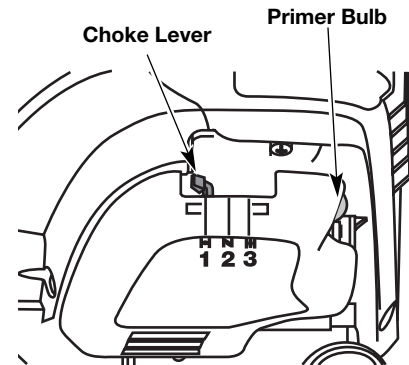

Fig. 8
WARNING: Avoid accidental starting. Make sure you are in the starting position when pulling the starter rope (Fig. 8). To avoid serious injury, the operator and unit must be in a stable position while starting.
3. Fully press and release the primer bulb 10 times, slowly. Some amount of **fuel should be visible in the primer bulb and fuel lines** (Fig. 8). If you can't see fuel in the bulb, press and release the bulb as many times as it takes before you can see fuel in it.
4. Place the choke lever in **Position 1** (Fig. 8).
6. Place the choke lever in **Position 2** (Fig. 8).
9. Place the choke lever in **Position 3** (Fig. 8). The unit is ready for use.